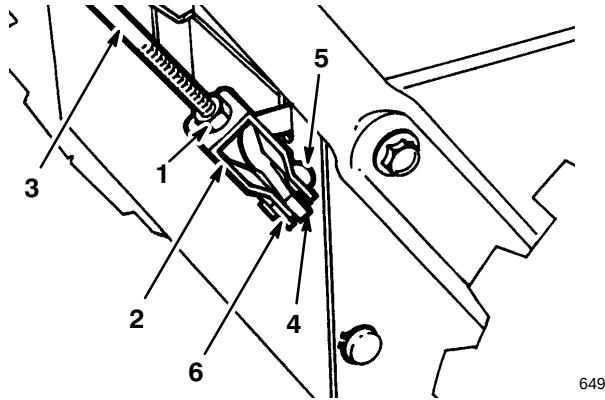

Figure 8
1. Loosen the jam nut above the clevis on the upper control rod (Fig. 8).
2. Align the holes in the clevis and lower control rod and insert the clevis pin (Fig. 8).
- C. Thread the clevis up or down to increase or decrease the distance between the handgrip and the auger/impeller control lever (Fig. 8).
6. When the adjustment is correct, install the clevis pin and secure it in place with the cotter pin (Fig. 8).
7. Tighten the jam nut to secure the clevis (Fig. 8).